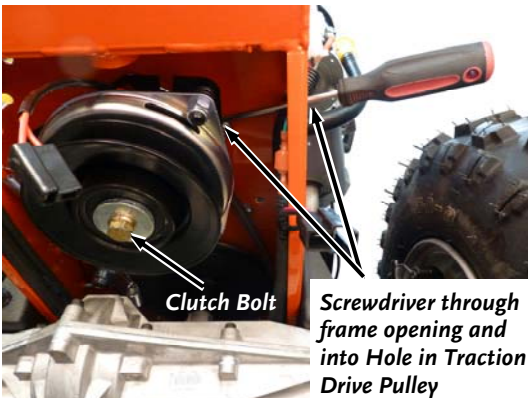

Figure 29
3. Locate the hole in Traction Drive Pulley (**Figure 29 and 30**) on the engine and insert the Phillips head screwdriver through the opening in the Frame and into the hole in the Pulley (**Figure 29**).